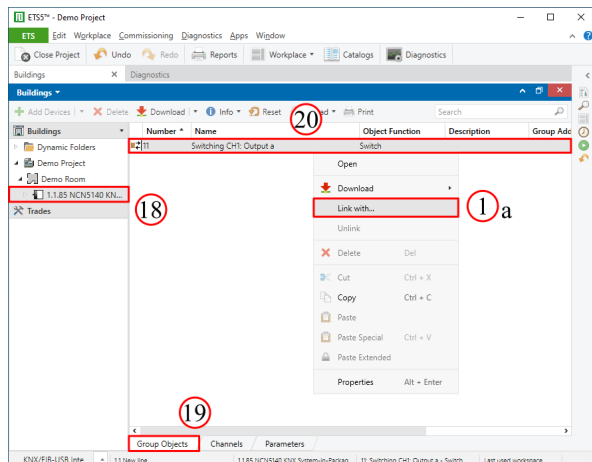

Figure 27. Assigning Group Objects
To assign group objects, click on the evaluation board in the *Buildings* view (18) and then on the *Group Objects* tab (19) on the bottom of the screen as shown in figure 27.